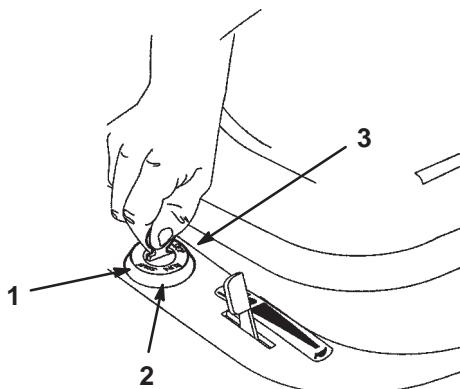

Figure 8
- Turn the ignition key clockwise and hold it in the Start position (Fig. 8). When the engine starts, release the key.
- Turn the ignition key to Stop (Fig. 8).